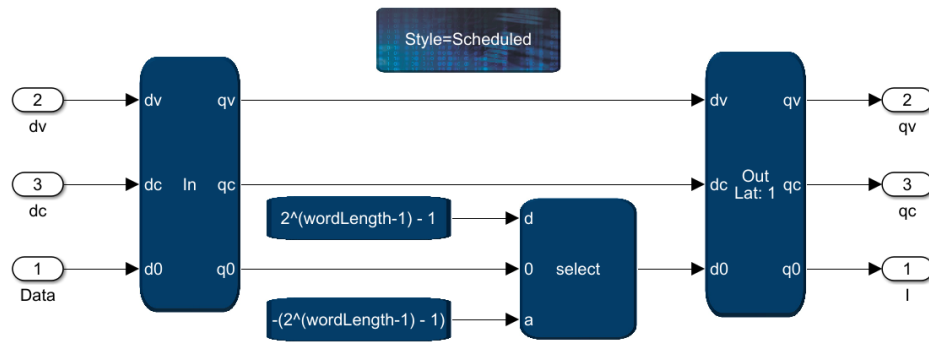

Figure 9: View of the Modulator subsystem.
- Connect the **q0** output of the *ChannelIn* block to the **0** input of the *Select* block to use the input data as a select signal. Add two *Const* blocks and connect them to the **d** and **a** input of the *Select* block. In a typical BPSK modulation format, a data input of 0 should result in **I** being positive, and a 1 in **I** being negative. To use the complete range of our available 12 bits, set the constant connected to **d** to $2^{(\text{wordLength}-1)}-1$, which is the largest positive value we can fit in our word length when using a signed representation. Correspondingly, set the constant connected to **a** to $-(2^{(\text{wordLength}-1)}-1)$. For both *Const* blocks, the **Output data type** should be `fixdt(true, wordLength)` and **Output scaling value** should be 1. When completed, the *Modulator* subsystem should look similar to Fig. 9